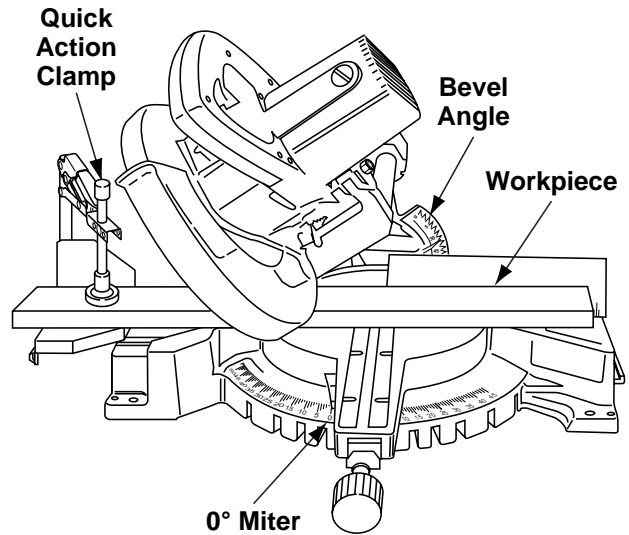

Figure 30. Bevel Cut
1. Loosen the bevel lock handle. Tilt the head assembly to desired bevel angle. Tighten the bevel lock handle (Figure 30).